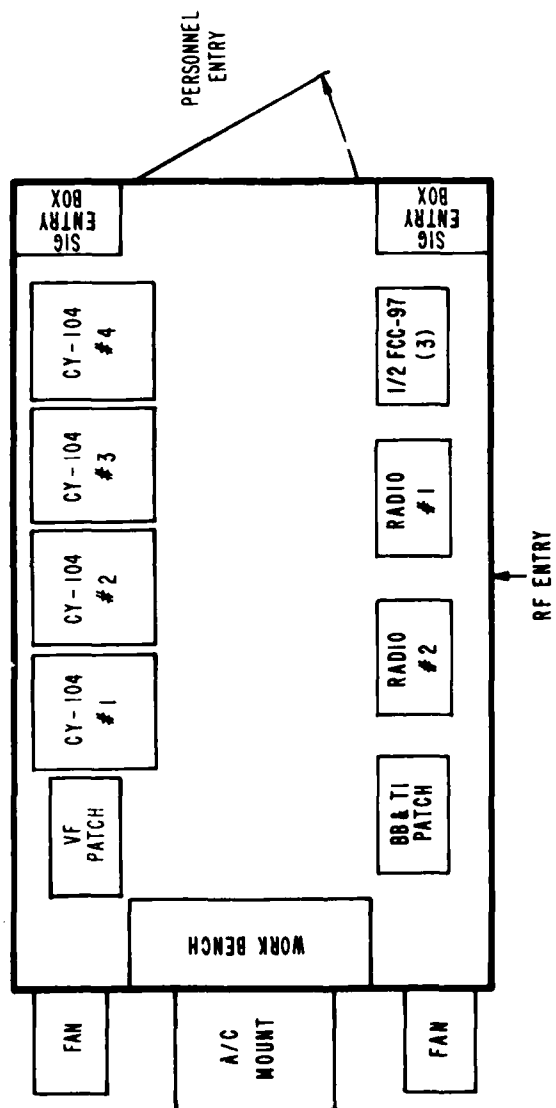

Figure 3. Equipment Shelter Floor Plan
1.2.1.1 Equipment Shelter. The equipment shelter consists of an assembly of several, physically discrete, electrically interconnected components, mounted in an S-280 shelter to comprise an integrated system. It feeds two, full-duplex, multi-channel microwave radio communications links operating in the 7.7 to 8.4 GHz frequency band and utilizing the LOS propagation mode. Figures 3, 4, and 5 are the shelter floor plan and cross sections of curbside and road-side views, respectively.